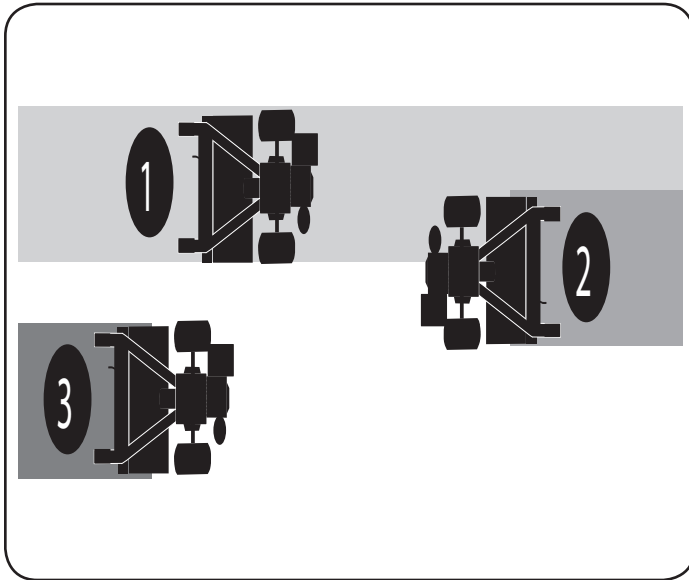

Figure 20
- If the garden size will not permit lengthwise and then crosswise tilling, then overlap the first passes by one-half a tiller width, followed by successive passes at one-quarter width. See Figure 20